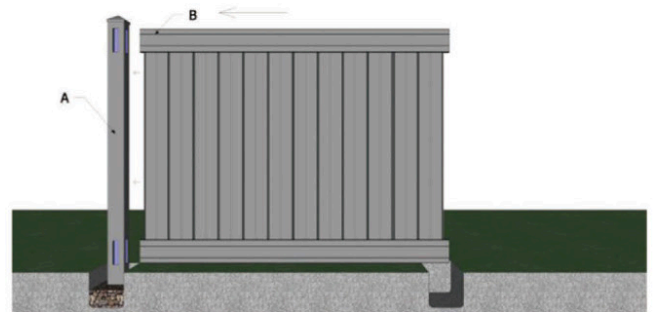

Fig 4.
5. The Fence panel is pre-assembled, insert pre-assembled panel (B) into the post hole until the top and bottom rails locking tabs are fully inserted into the post (See Fig. 4). It will be helpful to place a 2" x 4" under the panel as you insert into the post to help keep it level.